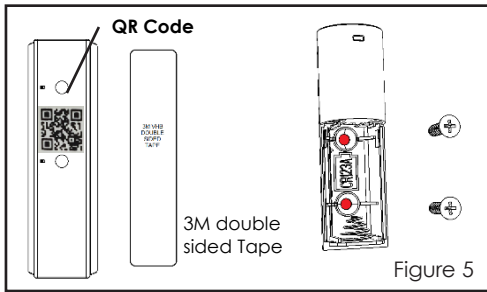

Figure 5
2. Use the provided double-sided tape on the sensor. Attach the sensor to the door/window frame. Press firmly and hold in place for a few seconds (Figure 5). Secure it with silicone if needed. For mounting with screws, please use the screw holes located in the battery compartment. (Figure 5)